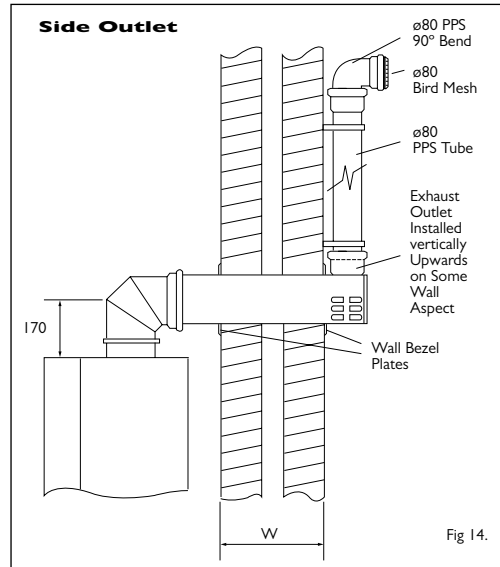

Fig 14.
If it is considered that plumbing or dripping from the end of a standard wall terminal may create a nuisance, then as an alternative, the vertically extendable discharge wall terminal is available see figs 14 and 16. This creates a local room sealed intake for combustion air but allows the installer to extend the 80 mm PPS flue gas tube to a point where plumbing or dripping discharge will not cause a visual nuisance or hazard.
1. Measure wall thickness W in mm - see fig 14 overleaf.
2. Measure distance between side of appliance and inside face of wall $L1$ in mm - see fig 14 overleaf.